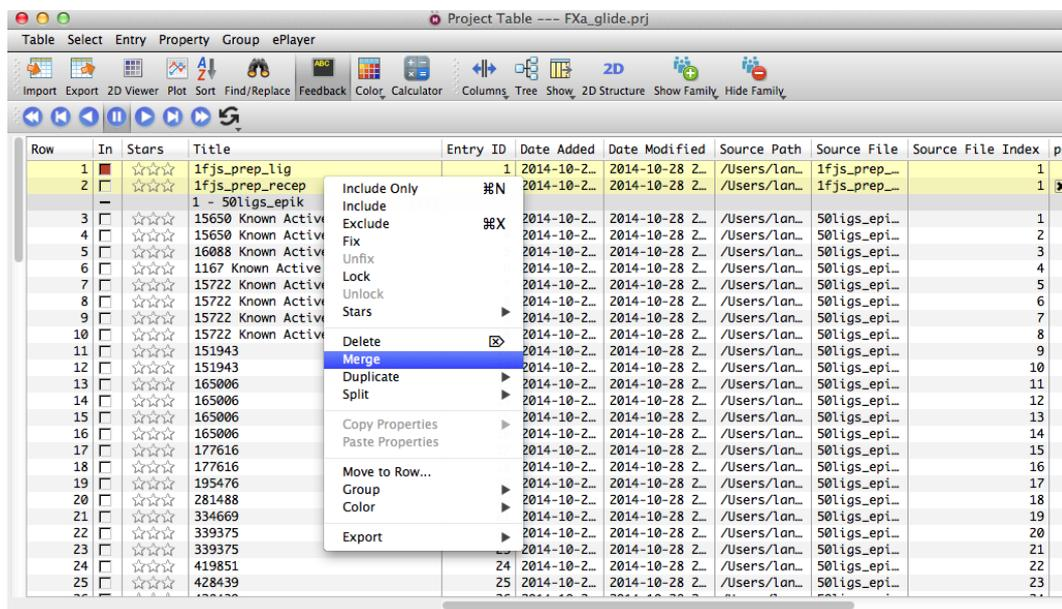

Figure 4. The Import Structures window.
4. Merge Structure Entries. Open the project table by pressing the **Table** icon in the **Project** toolbar. Ensure that the entries "1fjs_prep_lig" and "1fjs_prep_recep" are selected. If you are using a mouse, right click on one of the entries; from the menu that appears, choose "Merge" (**Figure 4**).